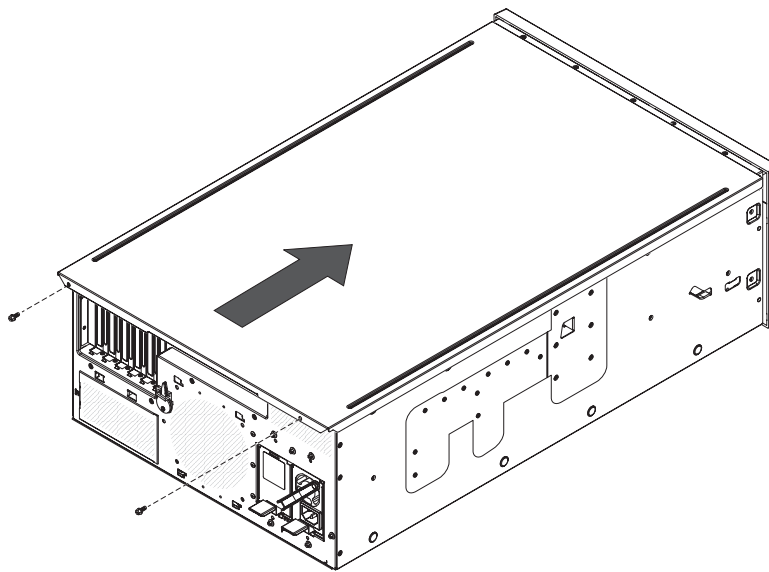

Figure 11. Installing the new bottom cover
4. Install the new bottom cover that comes with this kit as shown in Figure 11.